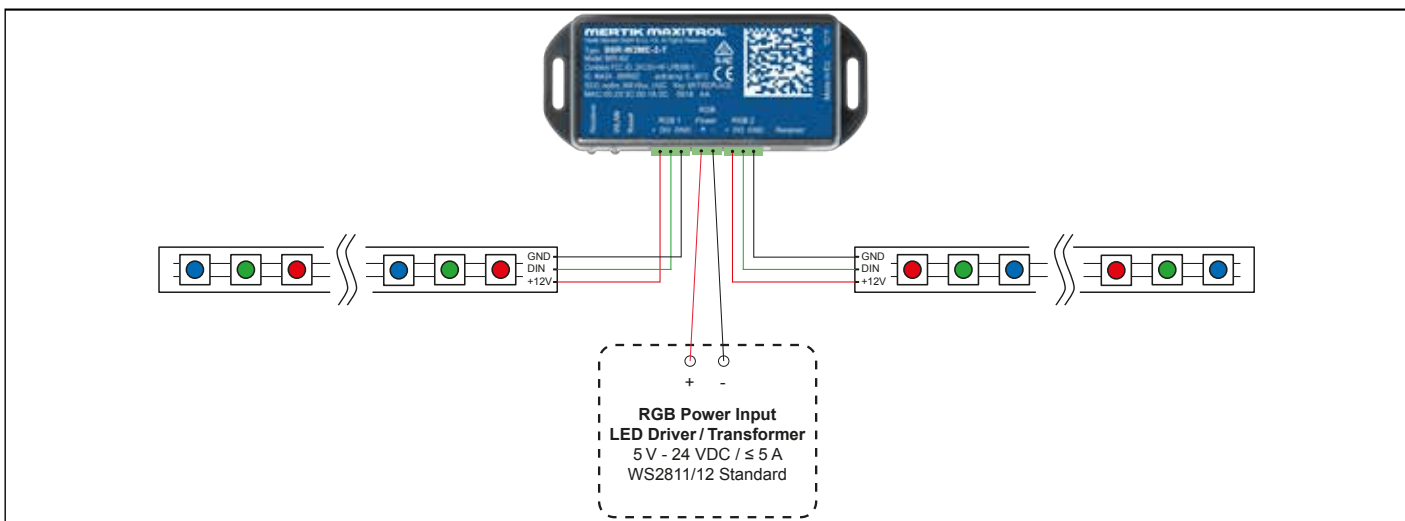

Figure 5: LED setup 1
- The power has to connect to the LED RGB external power input of the Wi-Fi Box. (see figure 5, page 24)